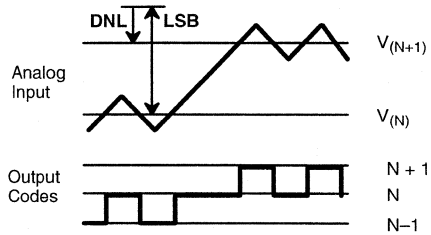

Figure 10. DNL Measurement
- 1 Tester measures code transitions by dithering the voltage of the analog input (V_{IN}). The difference between the measured and the ideal code width (V_{REF}/256) is the DNL error (Figure 10). The INL error is the maximum distance (in LSBs) from the best fit line to any transition voltage (Figure 11). Accuracy is a function of the sampling rate (FS).